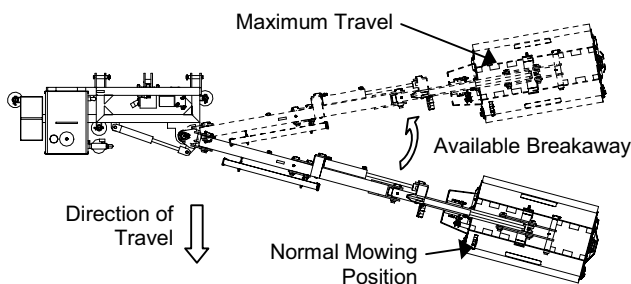

Figure 9
Because of the flail head design we caution against the practice of mowing in reverse! If you choose to mow in reverse, the breakaway protection works in the same way. The only difference being you must swing the booms to the rear 10 – 15 degrees. This will allow for more boom breakaway travel. This space is critical so as not to bottom-out the boom arm. See figure 9
*You must allow for the extra boom travel when mowing in reverse. See figure 9. If you have any questions about these instructions, please ask your local Hardee dealer immediately! Warranty claims for equipment used improperly will not be honored.*